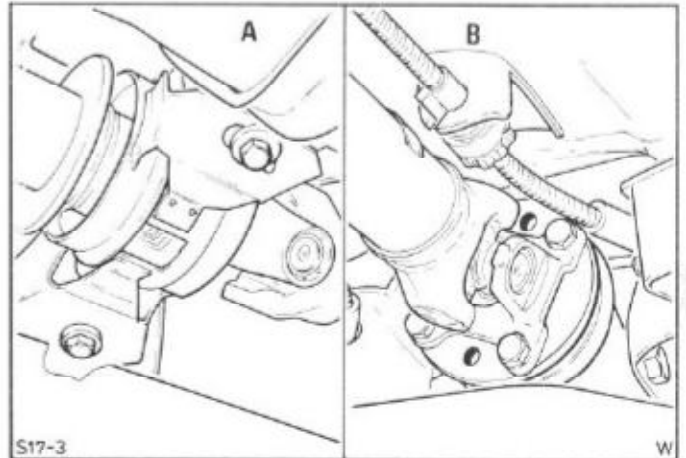

Fig.151. Remove the driveshaft.
3. Detach the driveshaft from the drive flange and the centre bearing, Fig.151. Draw the driveshaft towards the rear and then withdraw it towards the front between the exhaust pipes.